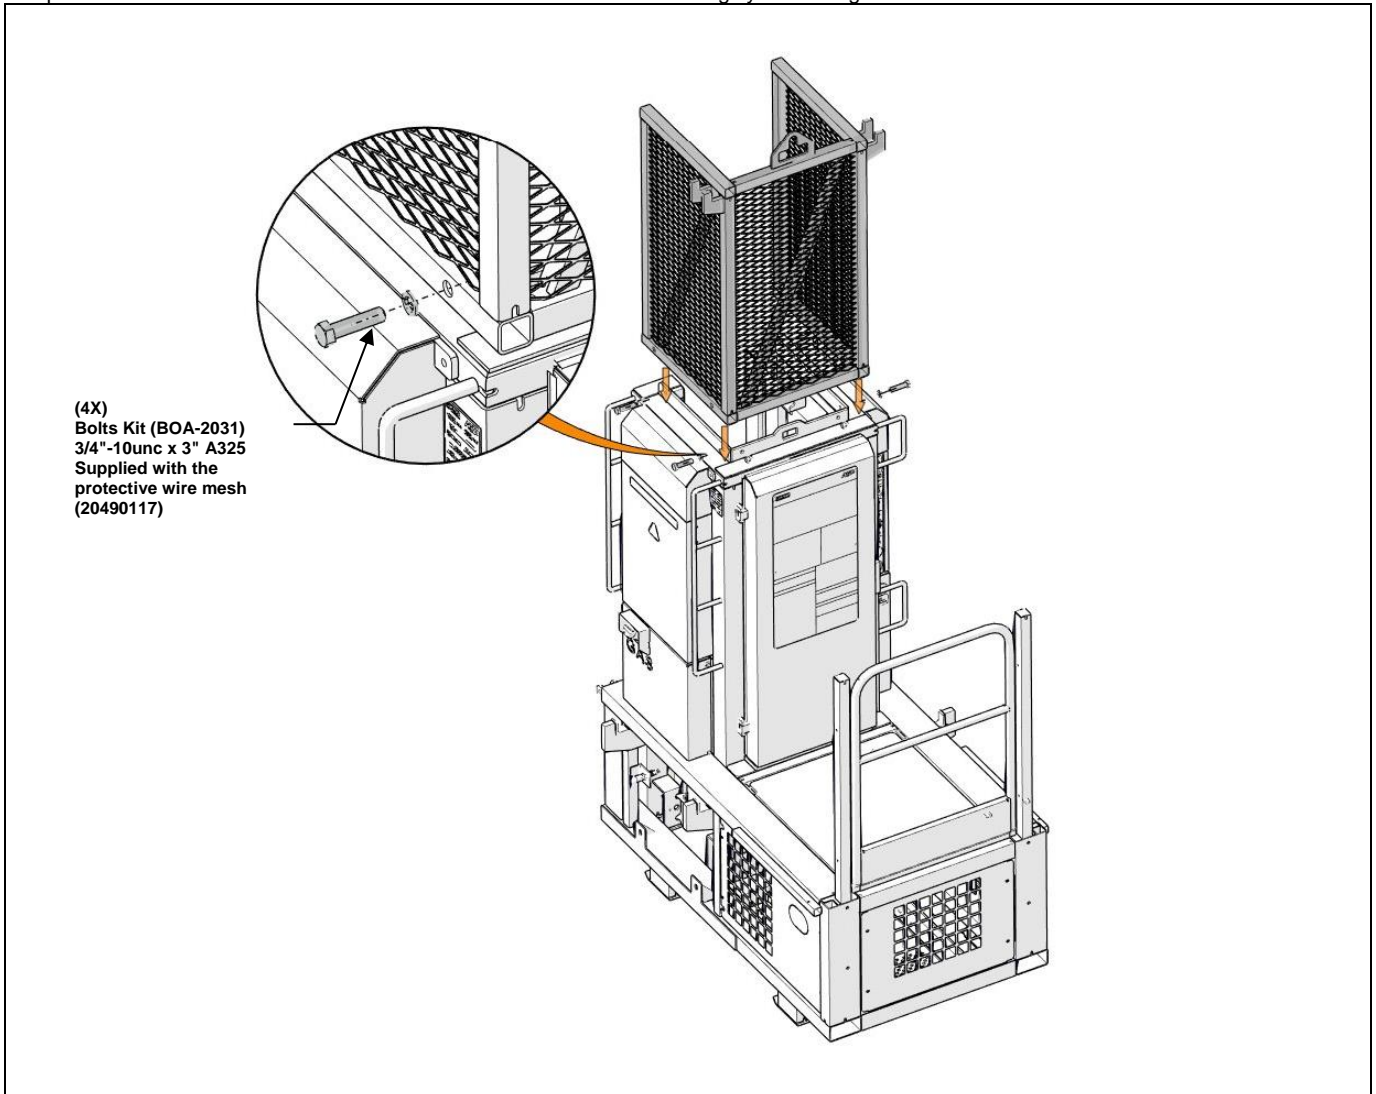

Figure 80 - protective wire mesh
- Finally lower the platform to the ground and install your bridge and extension sections in accordance with the installation instructions defined in **Chapter D**. Complete the platform installation (add fittings, guardrails and other remaining accessories...) and install the protective mesh on the lifting unit (See Figure 80).
- With the platform still at ground level, install your bridge and extension sections in accordance with the installation instructions in **Chapter D**. Complete the platform installation (add fittings, guardrails and other remaining accessories...) and install the protective mesh on the lifting unit (See Figure 80).
- Finally lower the platform to the ground and install your bridge and extension sections in accordance with the installation instructions defined in **Chapter D**. Complete the platform installation (add fittings, guardrails and other remaining accessories...) and install the protective mesh on the lifting unit (See **Figure 80**).
- With the platform at ground level, install your bridge and extension sections in accordance with the installation instructions in **Chapter D**. Complete the platform installation (add fittings, guardrails and other remaining accessories...) and install the protective mesh on the lifting unit (See **Figure 80**).
- Remove the protective wire mesh (see Figure 80).